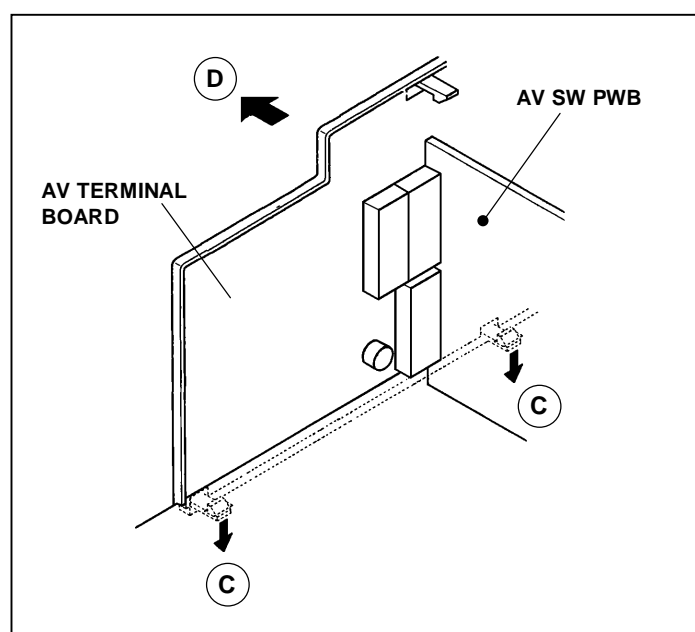

Fig. 2
2. As shown in Fig. 2, remove the 2 claws marked **C** under the CHASSIS.
3. As shown in Fig. 2, remove the AV TERMINAL BOARD slightly in the direction of the arrow **D**.